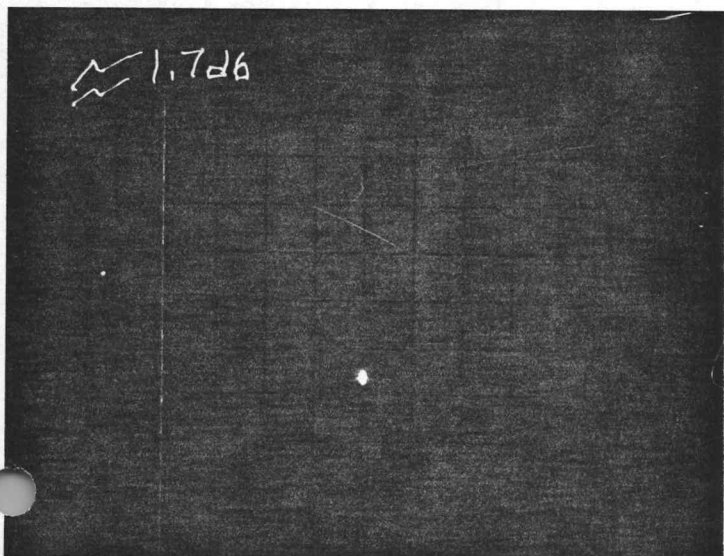

Fig. 4
- B. Record data that is where dot moves to on 8410, see fig. 4 for example.